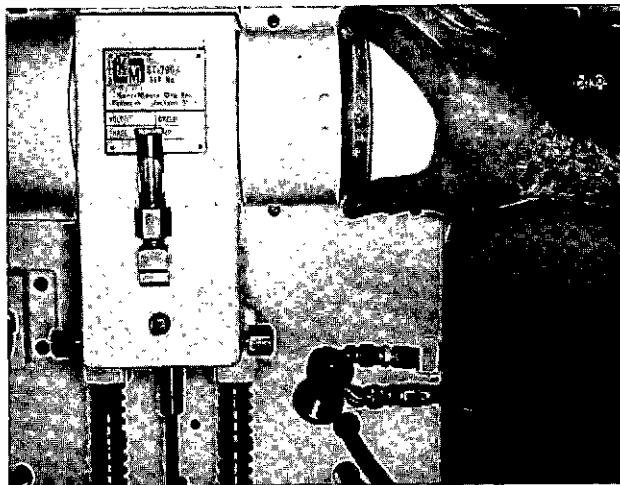
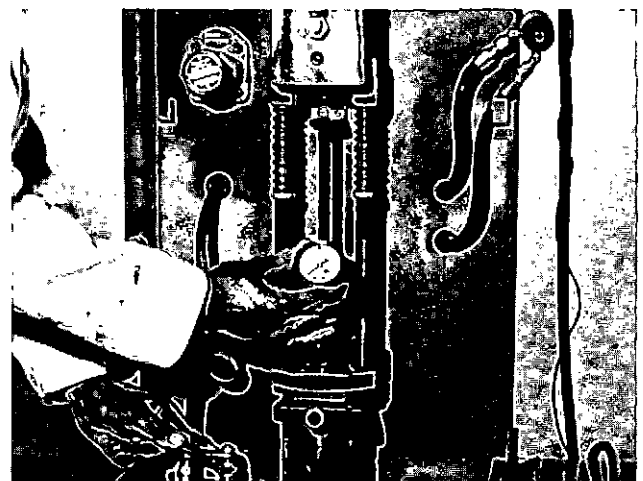

Fig. 4-40, (F60125). Align the timing wheel mark and the pointer
Fig. 4-45, (F60131). Install the ST-789 load cell
4. Before clamping the injector in the test stand, the cam must be timed by rotating the timing wheel so the wheel mark and pointer are aligned, Fig. 4-40.
4. Align the timing mark (Fig. 4-40) and open the hydraulic valve. Place the load cell, ST-790-5111, in the test stand and clamp it in place by opening the air valve. Fig. 4-45.
9. Place the adapter plate over the master injector, ST-768, ST-1210, ST-1262 or ST-1306, and engage the locator in the injector mounting holes. Make sure the seat is retracted and the timing marks are aligned at the timing wheel, Fig. 4-40.